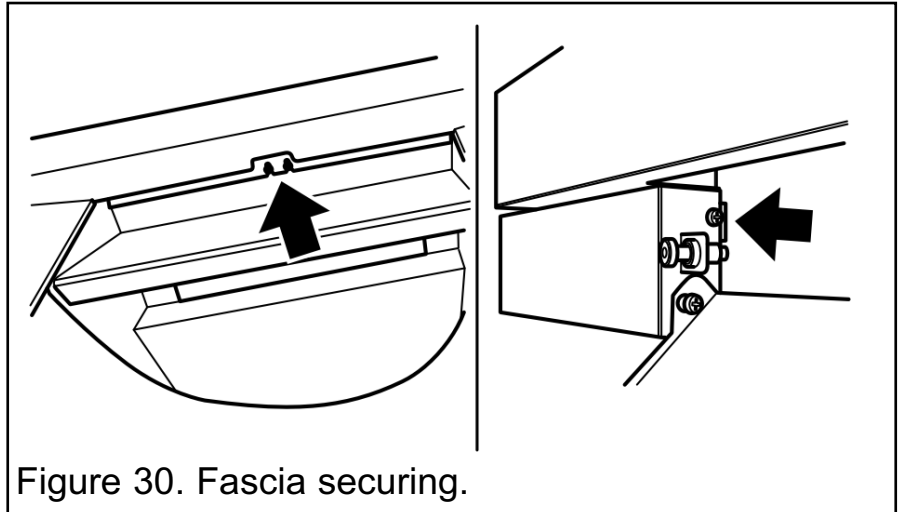

Figure 30. Fascia securing.
3. At the top of the fascia there are two cut-outs. Locate the cut-outs on to the screws at the top of the spillage plate (See figure 30).
4. The lower inner sides of the fascia should sit on top of the fascia securing brackets. The fascia will need to be re-positioned if the fascia sides fall behind the brackets (See figure 30). Secure the fascia using two self
tapping screws supplied (See figure 30).
3. The lower inner sides of the fascia should sit on top of the fascia securing brackets. The fascia will need to be re-positioned if the fascia sides fall behind the brackets (See the right hand image in figure 30). Secure the fascia using two self tapping screws supplied.